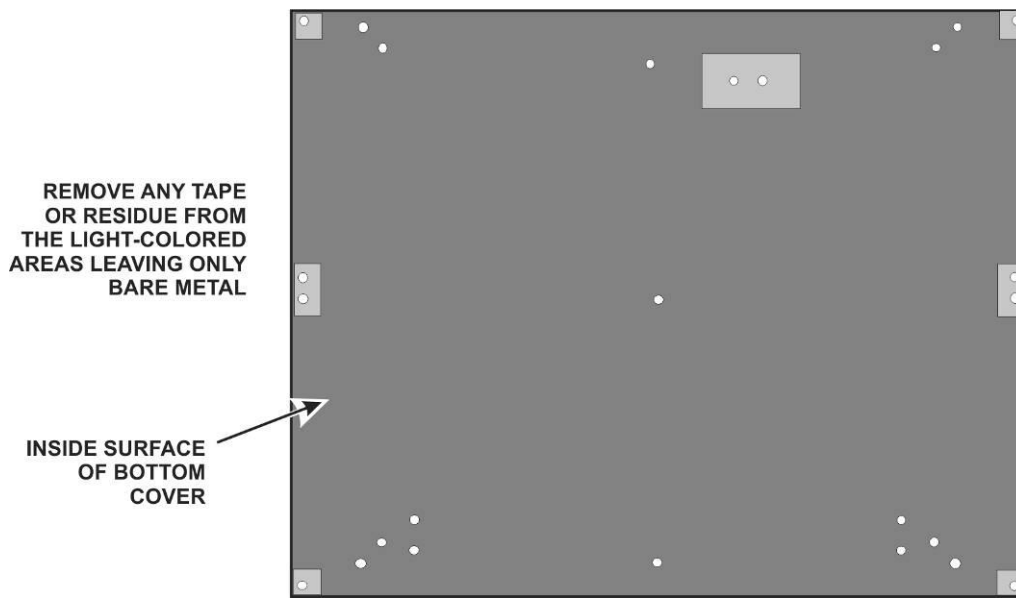

Figure 12. Preparing Bottom Cover for Installation.
- Locate the bottom cover. It is the same size as the top cover, but you can identify it by the hole pattern. Check the **inside** surface and remove any tape or other residue to ensure clean, bare metal at the locations shown in Figure 12. This is important for proper grounding of the enclosure panels.